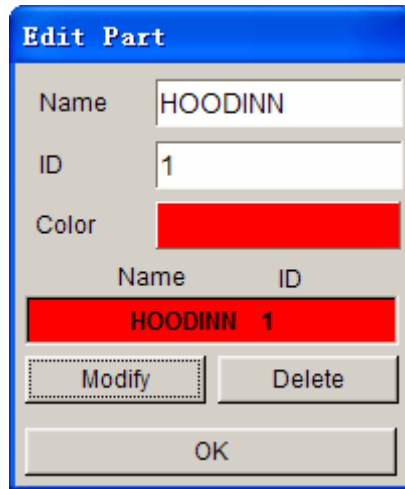

Figure 4 Edit part dialog box
1. From the menu bar, select **Parts→Edit** to display the **Edit Part** dialog box, as illustrated in Figure 4.